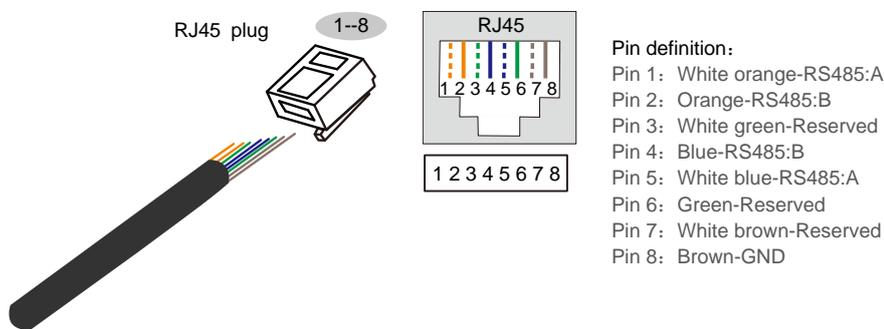
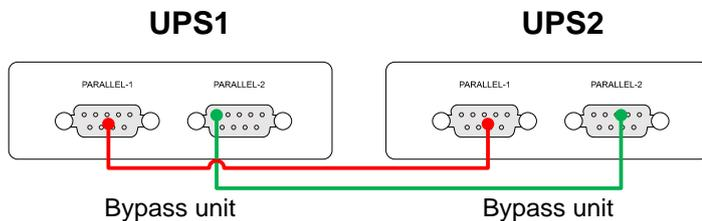
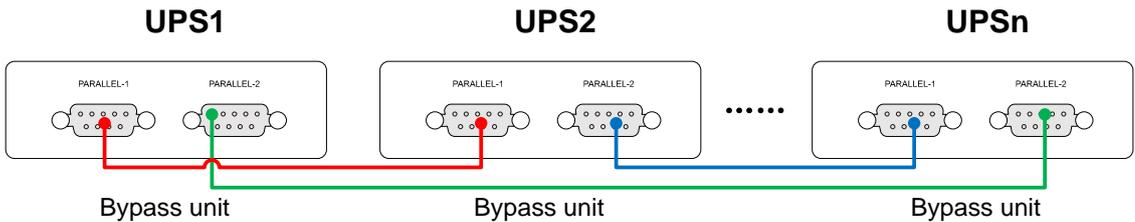

Figure2-10 Pin definition of RS485
Figure2-11 RS485 port wiring(Two UPSs)
Figure2-12 RS485 port wiring(Multiple UPSs)
| ③              | RS485 port  | It is used for a machine to monitor the running information of other parallel systems. RS485 port adopts RJ45 plug. The pin definition of RS485 port as shown in Figure2-10. In parallel system, the RS485 connection are as shown in Figure2-11 and Figure2-12.                            |                |   |  |  |
Wiring color in Figure2-11 and Figure2-12 just for display only, it cannot stands for the actual wire color, for specific color please see the actual wire.